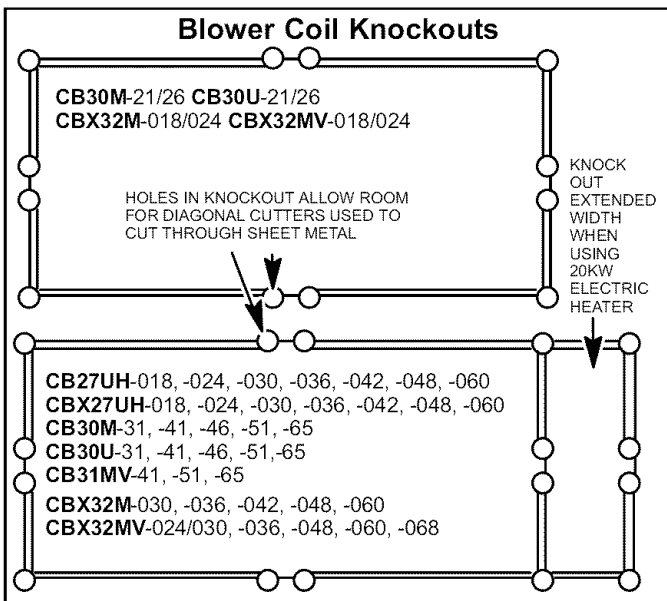

Figure 1
3. Remove the electric heat knockout section in the blower coil vestibule panel for the appropriate size of heater used. Remove the extended width knockout to allow for installation of 20kW heater (see figure 1).